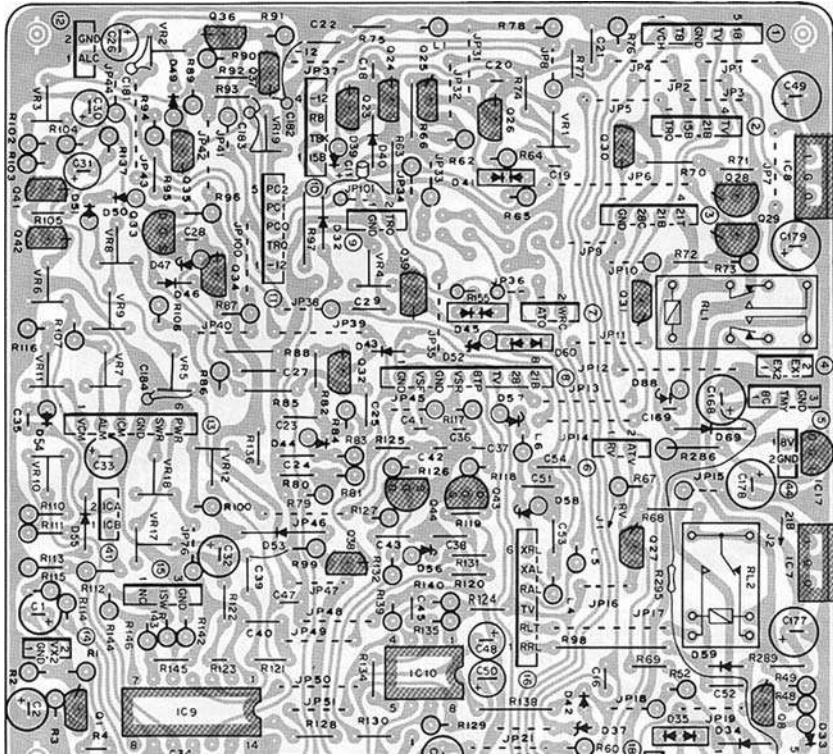

FIGURE 8-3 Pictorial diagram
- **Pictorial diagram** This uses drawings of the parts and shows their interconnections. The pictorials included in service manuals are really layout diagrams, detailing the placement of components as they exist on circuit boards and chassis. This is the drawing of landmarks and where to find them. See Figure 8-3.